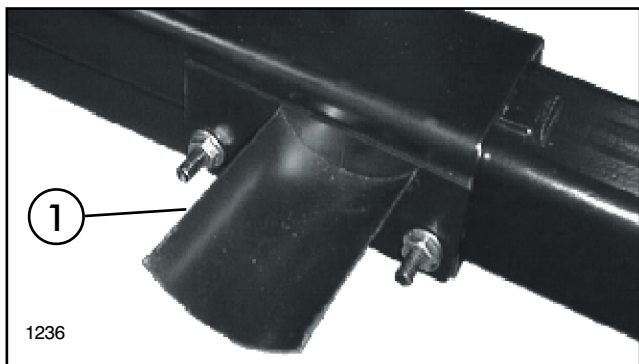

**FIG. 4**
8. Remove the (2) U-Bolts securing Harness Tube to the Tongue. Discard U-Bolts and Harness Tube they will not be used. See FIG. 4.